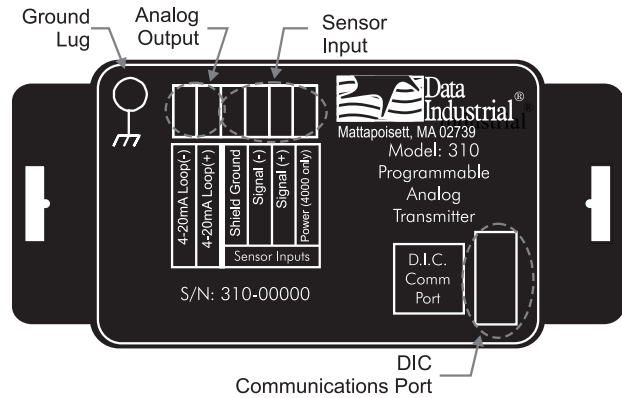

Figure 1: Data Industrial Series 310
1. Refer to Figure 1 for terminal connections.